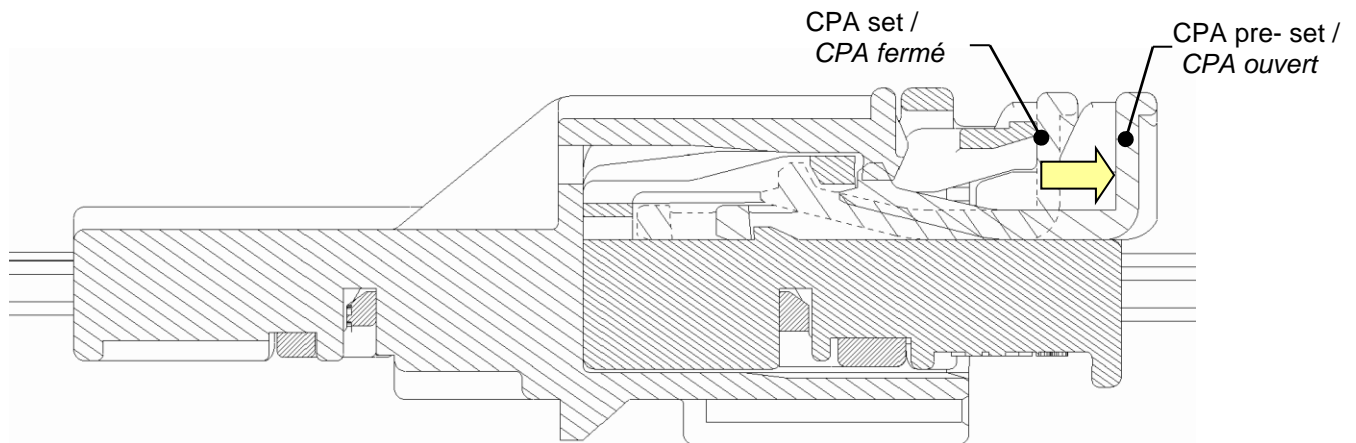

Figure 68 CPA from set to pre-set position / Ouverture du CPA
- Push the CPA from set to pre-set position (Figure 68). CPA deactivating force, according to PSA specification, is between 10N to 30N;
- Ouvrir le CPA (figure 68). La force de désactivation du CPA, suivant la spécification PSA, est comprise entre 10N et 30N ;